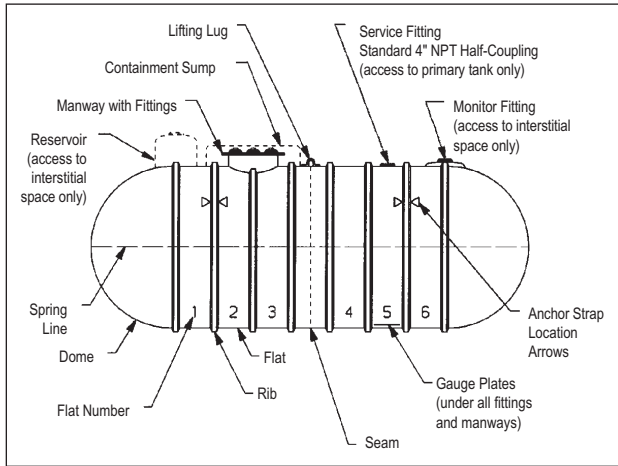

FIGURE 1-1
1.3.1. For terms related to Xerxes tanks, see FIGURE 1-1.